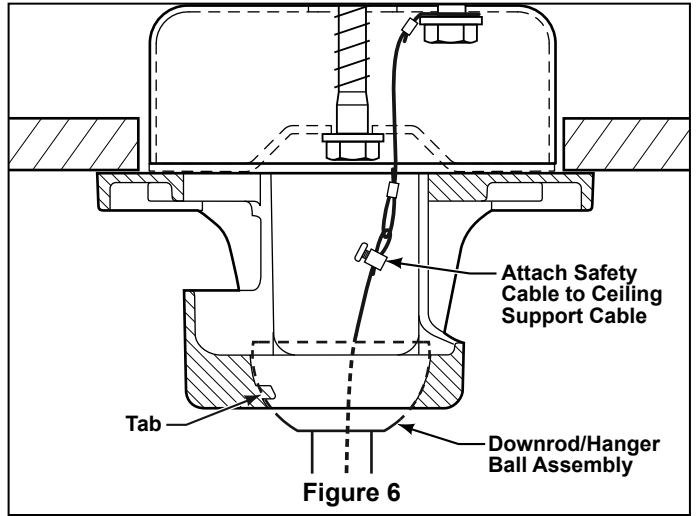

Figure 6
12. NOW, securely and fully tighten the lag bolt in the center of the Hanger Bracket while being careful not to allow the Hanger Bracket to rotate. (Figure 6)
5. Carefully lift the fan assembly and seat the downrod/hanger ball/support bar assembly on the hanger bracket that was just attached to the ceiling joist. Be sure the groove in the ball is lined up with tab on the hanger bracket. (Figure 6)
6. Attach the safety cable to ceiling support cable. Slide cable clamp onto safety cable (from fan). Place the end of cable through the loop of ceiling support cable. Pull as much cable through loop as possible. Feed end of cable into clamp hole and firmly tighten screw (Figure 6). Cut off excess safety cable.